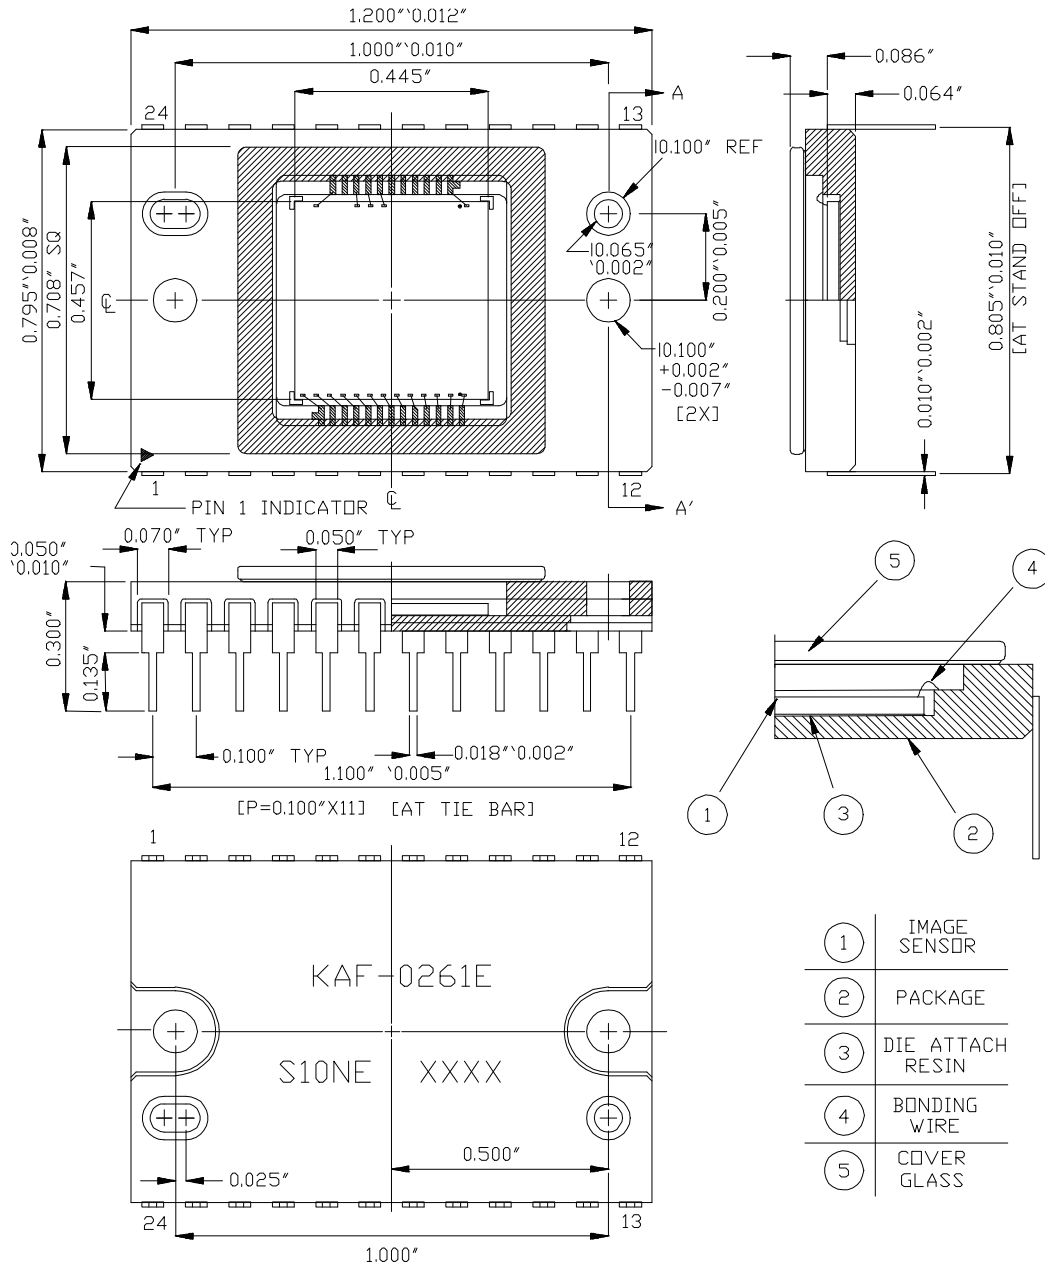

Figure 3 - Package Configuration
- Figure 3 - Package Configuration 5